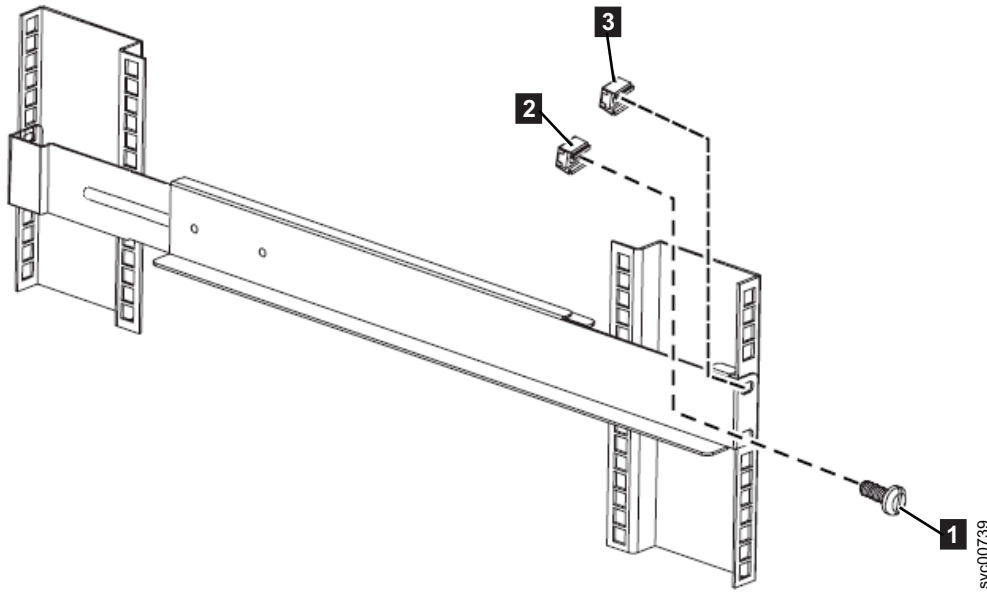

Figure 327. Attaching the front of the 2145 UPS-1U rail to the rack.
7. Install 2 clip nuts **2** and **3** to the front of the rack. Then attach the rail using just 1 M6 x 10 screw **1** in the bottom mounting hole as shown in Figure 327 on page 315.